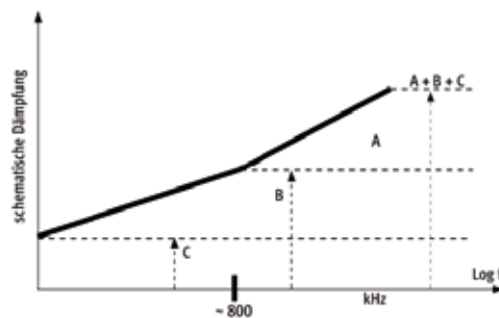

Figure 3 Ratio between leakage attenuation (A), resistance attenuation (B) and frequency independent resistance loss (C)
3. Frequency independent resistance loss C: Due to ohmic losses only. **Figure 3** shows the ratio between: